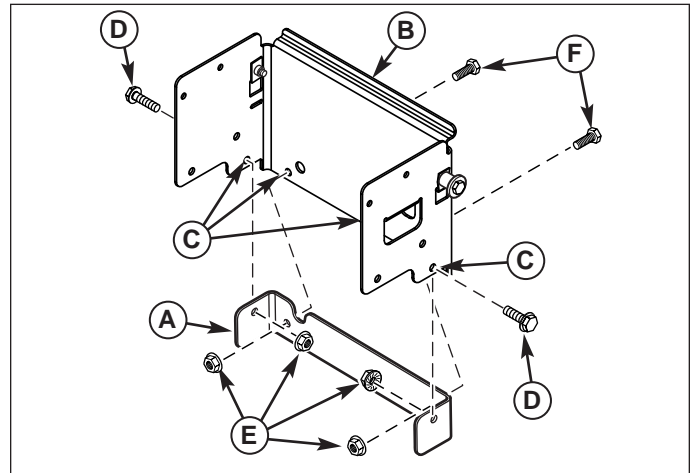
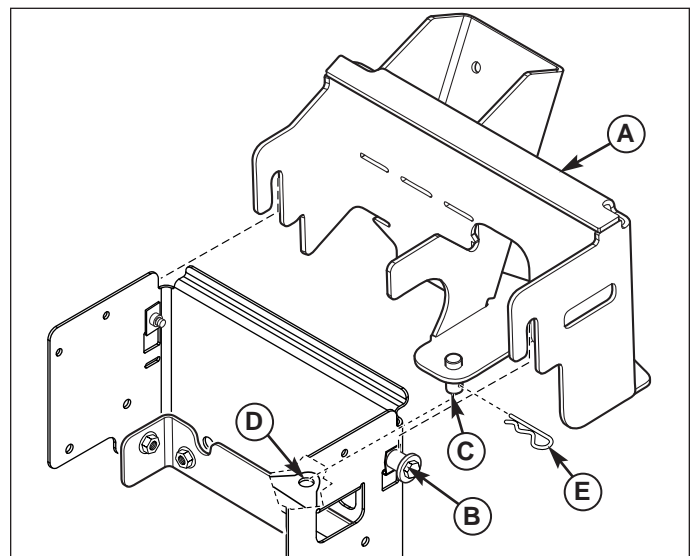

Figure 2. Frame Plate Reinforcement Installation
Figure 3. Hitch Installation
4. Remove existing nuts and capscrews from both sides and rear frame support holes (C, Figure 2)
5. Secure frame reinforcement (A) to the inside of the rear frame support (B) using new 5/16-18 x 1-1/4 capscrews (D) and existing 5/16-18 capscrews and locknuts (E & F) as shown.
6. Slide the hitch (A, Figure 3) on right side and left side shoulder bolt (B) while sliding pin (C) into hole (D) as shown. Secure with hair pin (E).